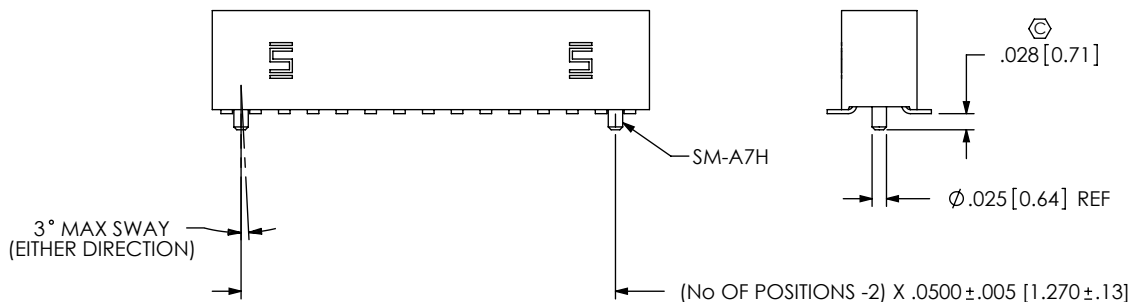

**FIG 4**
- P: PICK AND PLACE PAD (SEE FIG 4, SHT 2) (USE LMP-09, -05 POSITIONS MIMIMUM)